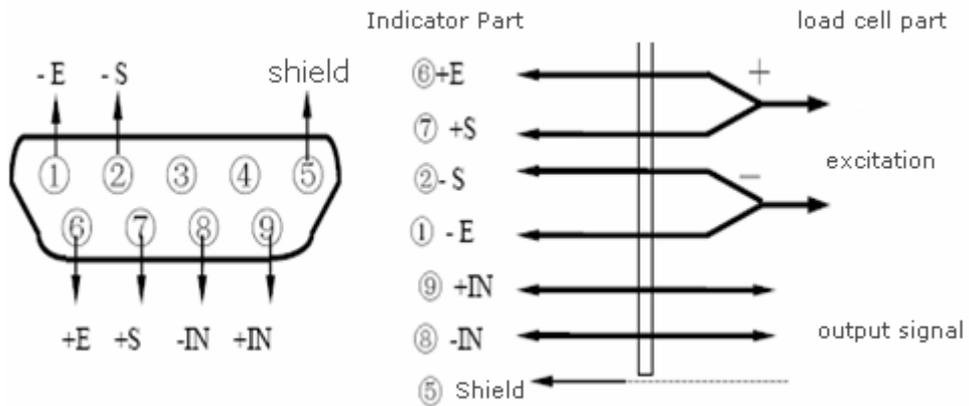

Fig. 2-4 Connecting Diagram of Load cell
1. D-sub 9 pin socket socket is used for the connection of load cells. The meaning of each pin is listed in Fig. 2-4.